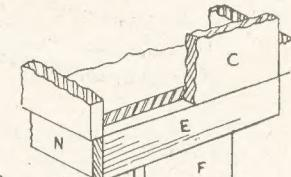

Fig. 3—The back and step
Turning again to the body of the coach we next cut and fit two rails (N) on the underside of the floor. In Fig. 3 the position of these can be seen to be just inside the thickness of the sides (B), with back rail (E) fitting on to it. This rail comes flush with the back (C) of the coach as seen in Fig. 3. Pieces (F) and (G) measure 1 $\frac{1}{2}$ in. long by $\frac{1}{8}$ in. and $\frac{1}{8}$ in. wide respectively and form the step up into the coach. The two rails (N) are shaped